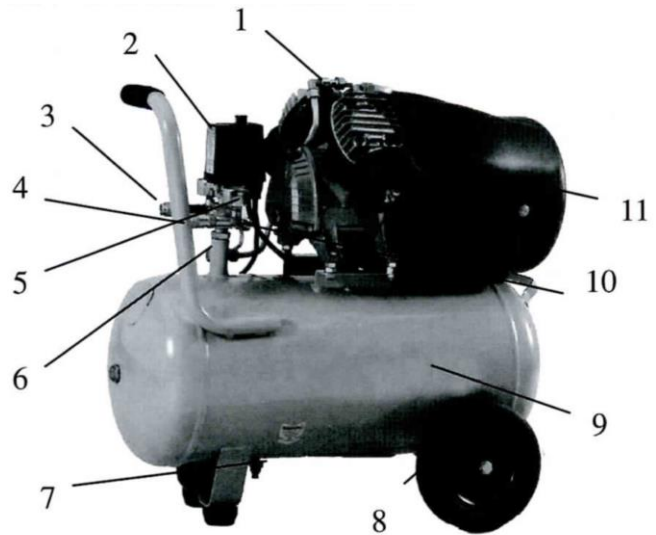

Fig.1
2. General View and Main Components (Fig.1)